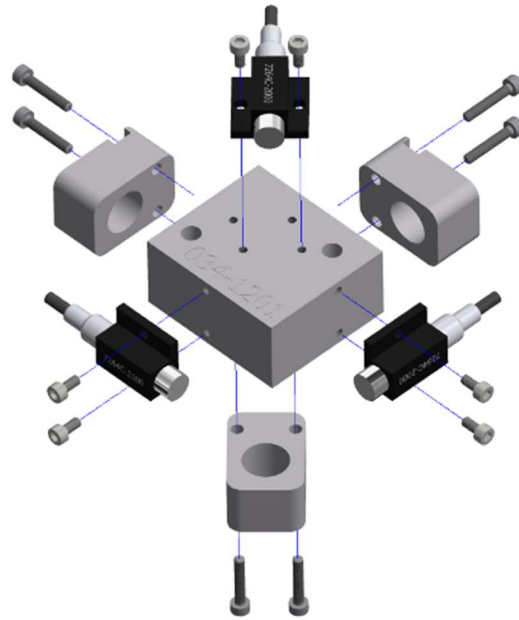

Figure 10-48. Attach the Accelerometers and ARSs to the mount
- 10.3.13 Attach three Accelerometers to the mount (034-1201) using two M1.4 X 0.3 X 3 LG. SHCS per accel (Figure 10-48). Attach three ARSs to the mount using two M1.4 X 0.3 X 8 LG. SHCS per ARS (Figure 10-48).